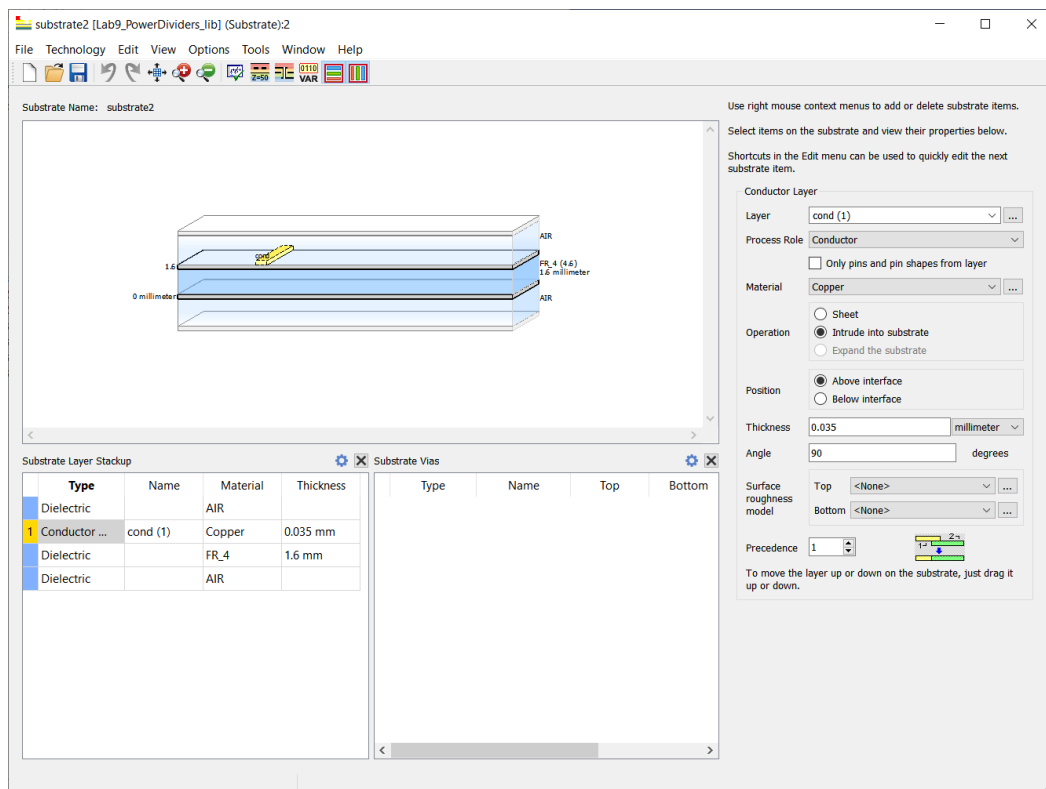

Figure 28. Substrate layout showing added air layer
5. The substrate used for the waveguide will be slightly different than the previous sections because of the location of the ground pin. Make a copy of the substrate from the previous sections and place it in the same cell as the CPW layout. Open the Substrate Editor and make the following changes. The final substrate properties are shown in Figure 28.